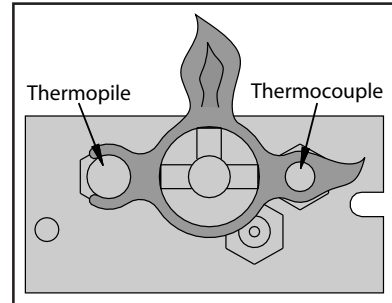

Figure 3. Pilot Flame
1. Turn off the gas to the fireplace. **If not recently done, remove the glass and let the unit air out for at least five (5) minutes to clear out any gas.** Turn on gas to the heater. Leak test all joints with soapy water. **NEVER USE OPEN FLAME FOR LEAK TESTING.**
2. Start the pilot by pressing the gas control knob and turning it to PILOT. While holding the gas control knob in, press the piezo ignitor several times until the pilot light starts. Hold the gas control knob in for 30 seconds. Check that the pilot has fully engulfed the thermocouple assembly (see Figure 3).
The air shutter allows the amount of air coming into the fireplace to be adjusted in order to accommodate different climates and venting arrangements. Start the pilot and then the burner. Make sure the pilot flame is burning normally and none of the burner ports are plugged. Let the fireplace burn for roughly fifteen minutes and then examine the flames, compare the flames to Figure 3.